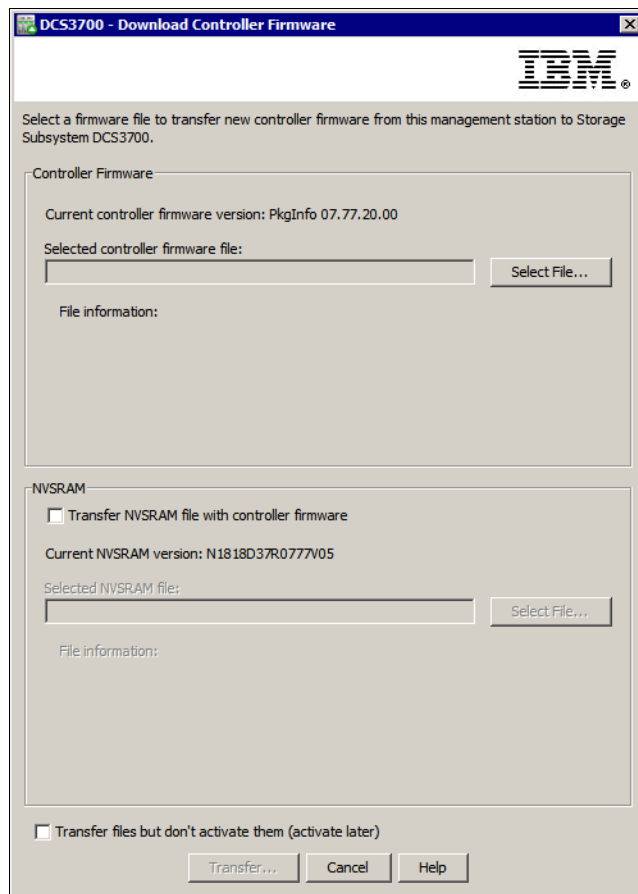

Figure 14-33 Download Controller Firmware
- If there are no event log verification errors, then the Download Controller Firmware window opens, as shown in Figure 14-33.